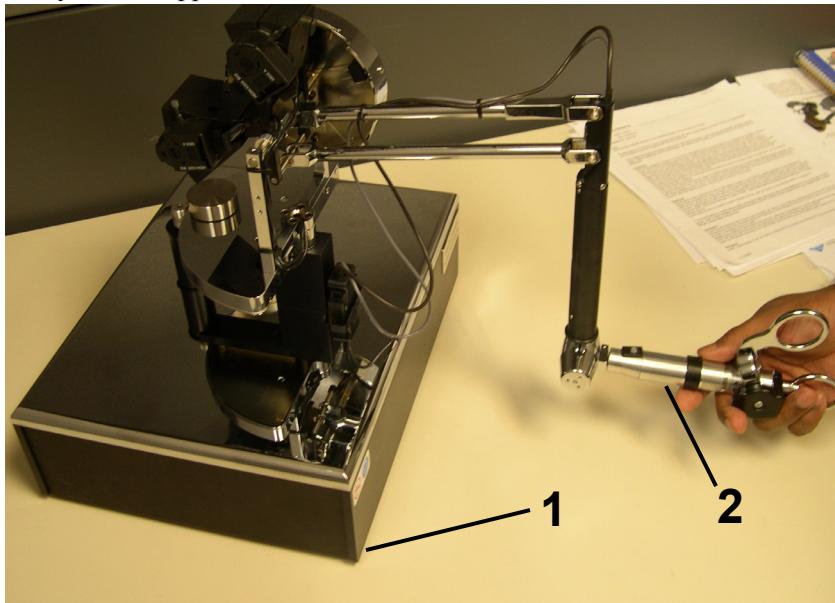

FIGURE 1-1. PHANTOM Premium (1.5/6DOF Model Shown)
**PHANTOM Premium lifting points** The PHANTOM Premium is a sensitive piece of electronic equipment. Lift by placing your hands under the bottom of the base, and support the base when moving it (See 1 in Figure 1-1). Lifting by any of the moving parts may affect the unit's performance and risks damaging the device.
**Stylus with Switch** The stylus is the “handle” or “pen” you use to interact with virtual objects (See 2 in Figure 1-1). Your forefinger or thumb should rest above the raised switch when using the device. Like a mouse button, the switch is used differently in each application.